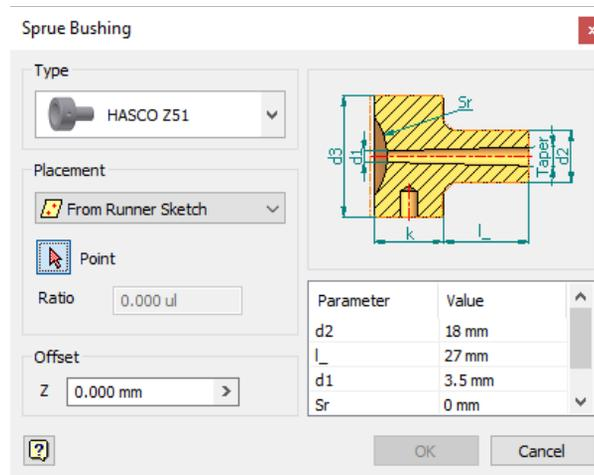

Figure 19-66 The Sprue Bushing dialog box
1. Choose the **Sprue Bushing** tool from the **Mold Assembly** panel in the **Mold Assembly** tab of the **Ribbon**; the **Sprue Bushing** dialog box is displayed, as shown in Figure 19-66.